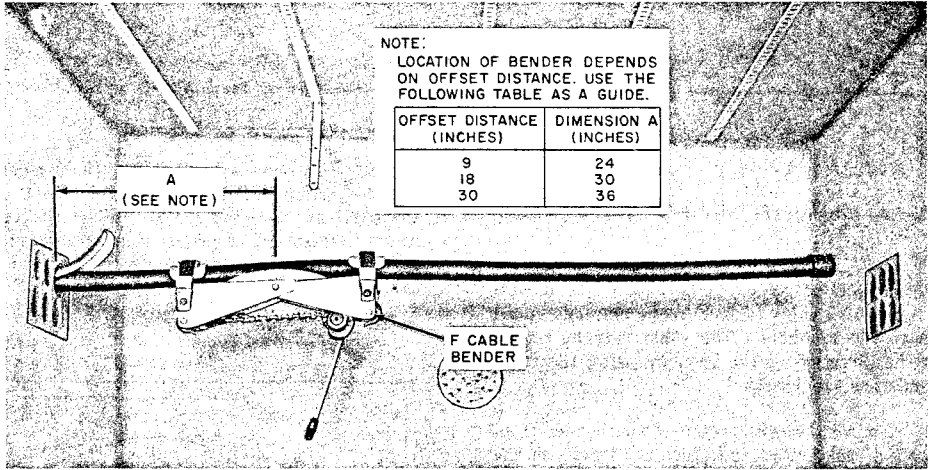

Fig. 5—Initial Position for Splicing Manhole Racking
- (1) Determine the distance from the duct to the manhole wall, or to the racking position if the cable will occupy the inside position in a
- (2) Place the F cable bender on the cable and proceed as shown in Fig. 5 and 6.
- (3) Secure polyethylene-sheathed cables to slotted cable hooks with sealing clamps or lashed cable supports.